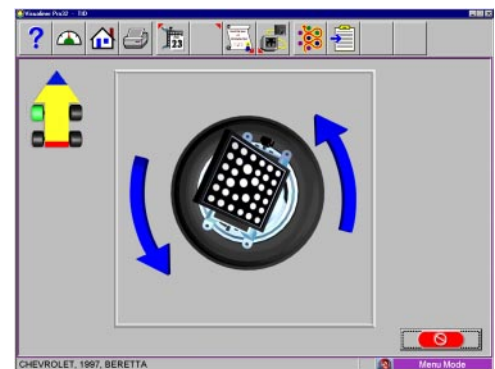

Figure 3-49
10. After the readings are taken the arrows indicate to rotate the tire and wheel assembly forward 90°. (Figure 3-49) Rotate the wheel until a stop sign appears and hold the wheel steady as a reading will be taken.